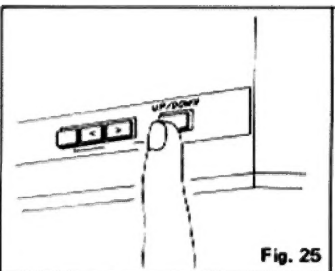

Fig. 25
6. Press the UP/DOWN button, so that the tonearm is lowered gently onto the surface of the disc, disc play will begin. Pressing this button again will cause the tonearm to lift up from the disc and the UP/DOWN indicator will come on. (Fig. 25)